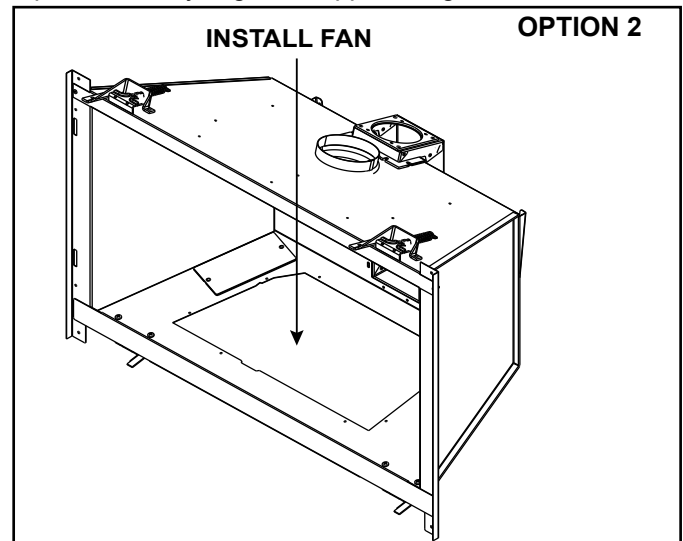

Figure 6.4 Through Valve Plate Opening (Option 2)
- Remove appliance front, glass, logs, base pan assembly, burner assembly and valve plate assembly. See Figure 6.4.